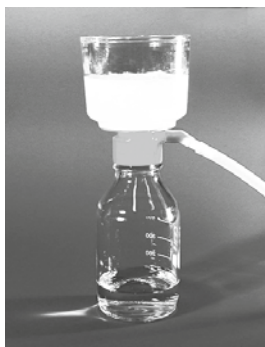

Figure 2 Correct use of the NucleoBond® Bottle Top Filter
For **NucleoBond® PC 100, 500, 2000, BAC 100** place one filter in a funnel of appropriate size. For **NucleoBond® PC 10000** put a folded filter of type 1 into a folded filter of type 2 and place the combination in a funnel. The two types of filters differ in pore size to allow a fast and complete removal of large amounts of precipitate. Wet the filter(s) with a few drops of Equilibration Buffer N2 and load the bacterial lysate onto the wet filter(s). Either collect the flowthrough in a separate vessel or position funnel and filter directly on top of the **NucleoBond® Column** to clear and load the lysate in one time saving step (see Figure 2).
2) Use NucleoBond® Bottle Top Filters for a very fast and complete, vacuum assisted filtration. Two different types of filters can be ordered separately (see ordering information) for NucleoBond® PC 2000 (Type 1) or NucleoBond® PC 10000 (Type 2). Attach a bottle top filter to a suitable flask (e.g., Schott), load the bacterial lysate and apply the vacuum (see Figure 2). The lysate is cleared and sterile filtered within 3–5 minutes and can then be loaded onto the NucleoBond® Column.